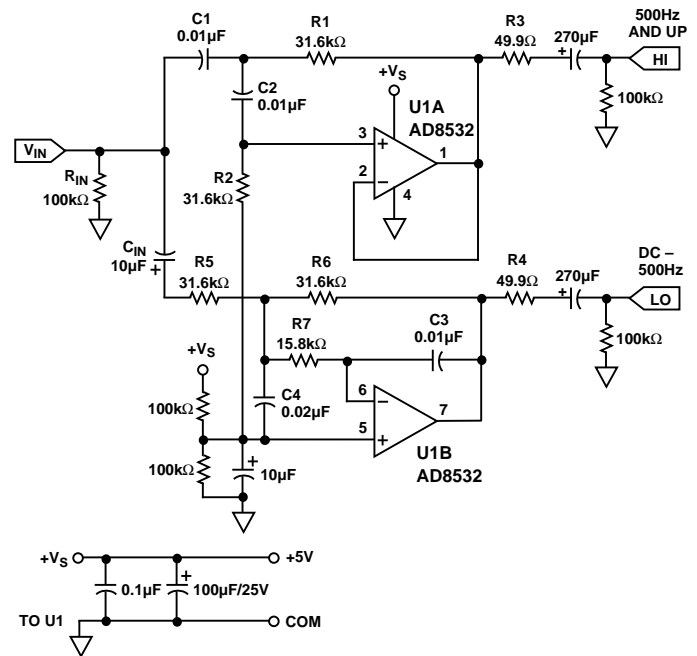

Figure 41. A Single-Supply, Two-Way Active Crossover
Active filters are useful in loudspeaker crossover networks for reasons of small size, relative freedom from parasitic effects, and the ease of controlling low/high channel drive, plus the controlled driver damping provided by a dedicated amplifier. Both Sallen-Key (SK) and multiple-feedback (MFB) filter architectures are useful in implementing active crossover networks. The circuit shown in Figure 41 is a single-supply, two-way active crossover which combines the advantages of both filter topologies. This active crossover exhibits less than 0.4% THD+N at output levels of 1.4 V rms using general purpose unity-gain HP/LP stages.